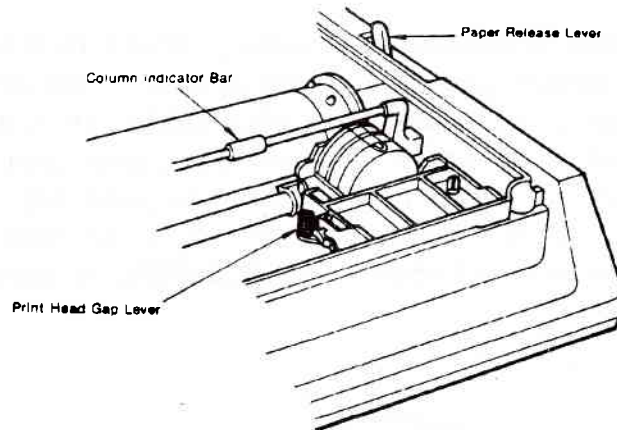

Figure 22, Paper release lever
When you use perforated fan folded paper, the paper release lever must be in the forward position. (see figure 22).
With the printhead gap lever, you can adjust the gap to the thickness of the paper. (see figure 22). For normal paper the lever must be in position nr 1.
4. Make sure the paper lever is in the forward position and lift the column indicator bar. (see figure 22).
6. Set the printhead gap lever on the printhead to the number 1 position. (see figure 22).